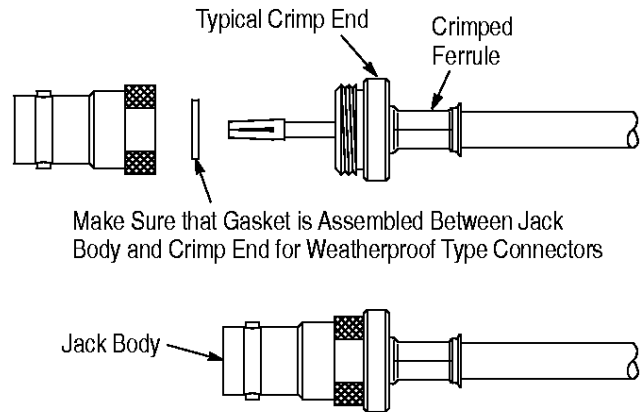

Figure 2
Refer to Figure 2 for assembling crimp end and connector body.
5. Assemble the crimp end into the connector body as shown in Figure 2, *after* the ferrule and contact portion is crimped.